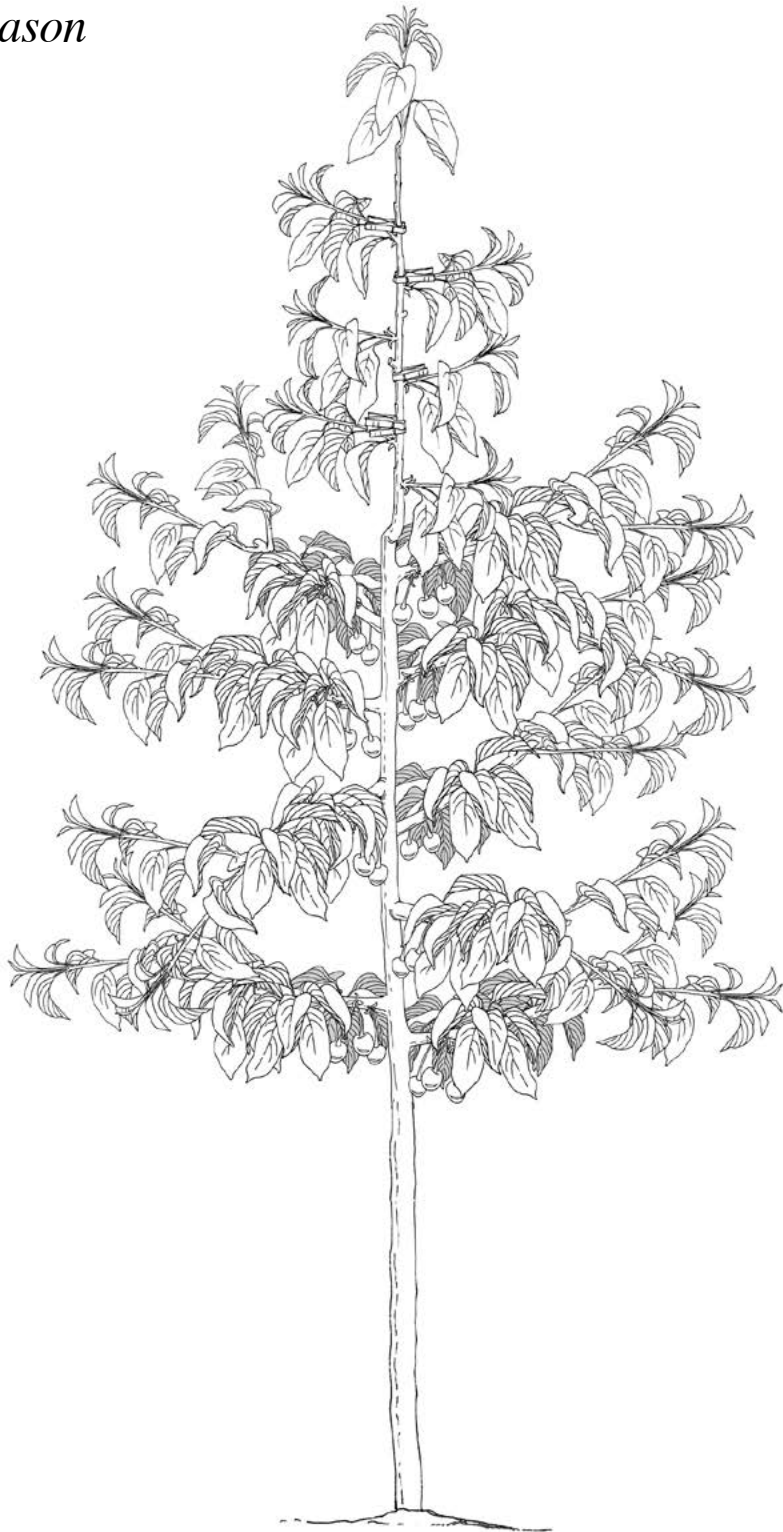

Figure 58
- The use of clothespins for developing good crotch angles of new lateral shoots in Year 1 also applies to new lateral shoots off the leader in Year 2 (Figure 58).